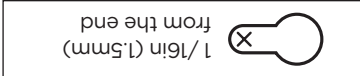

Figure 2
Step 4: Place the switch in the desired location and clearly mark the locations for the two mounting holes. See Figure 2. Make sure the 2-pin connector is facing the direction of the first light fixture and the 3-pin connector is facing the direction of the closest electrical outlet.